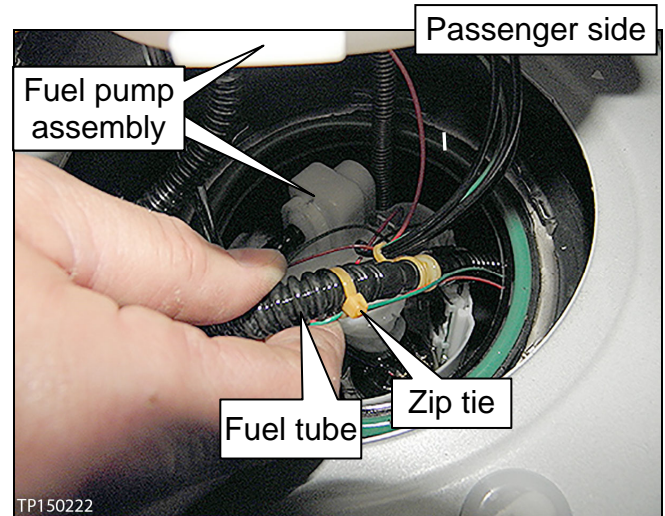

Figure 10
17. Pull the fuel tube with mechanic's wire that was attached to the sub fuel level sensor through the saddle area (Figure 10).